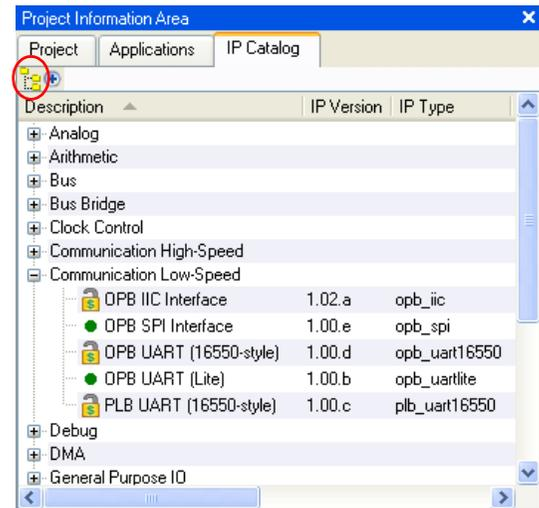

Figure 3-4: Project Information Area: IP Catalog Tab
- ◆ Note the option to select a flat or hierarchical view. Click the directories icon circled in Figure 3-4, above, to switch between the two views.